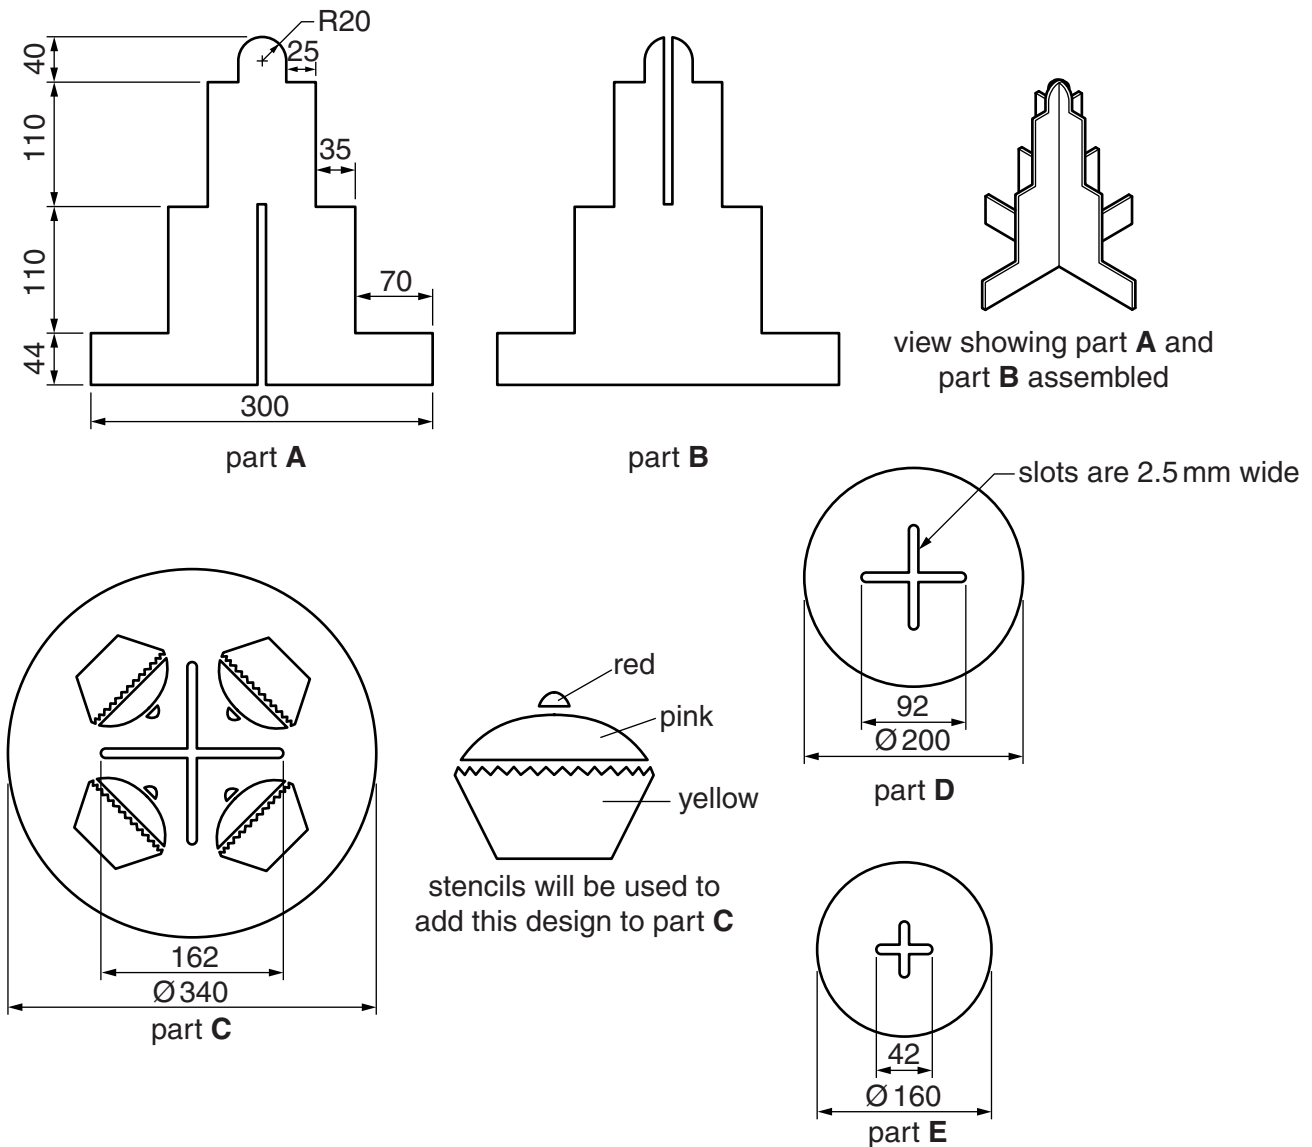

Fig. 2
- 2 Fig. 2 gives details about a cake stand, made from card, which is to be produced in a school workshop. The card will be 2000 microns (2 mm) thick.